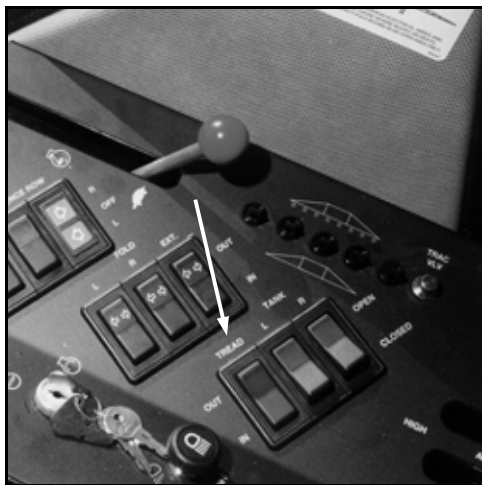

FIG 5.20
3. Locate the hydraulic tread adjust switch on the console panel (fig. 5.20). To adjust the tread in or out, depress and hold the corresponding side of the switch.